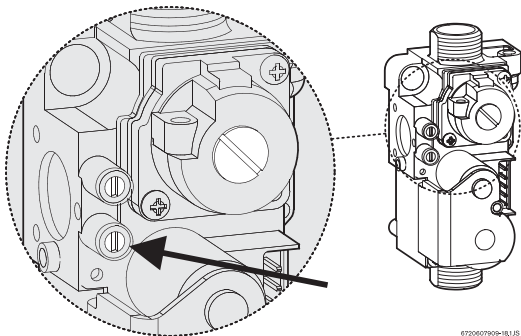

Fig. 22 Gas pressure measuring (lower tapping)
- ▶ Remove front cover and locate the inlet gas measuring point (see Fig. 22).